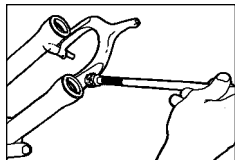

Fig. 7
- 6. Clean the internals of lower tubes, bushings (two per leg), and Resi-wiper seal. A long 3/8" drive socket extension wrapped in a lint-free rag works well. (see Fig. 7)